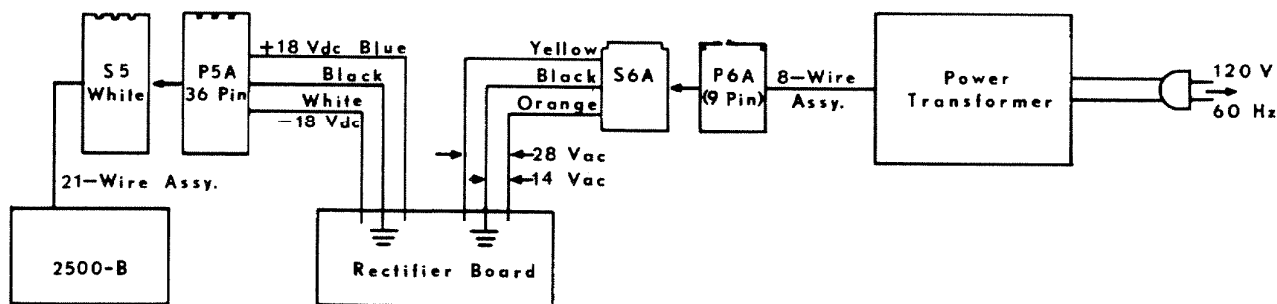

Fig. 1.40 — POWER SUPPLY SERVICE KIT CONNECTED TO INTERCOM MASTER CONTROL
8. When used to check the Model 2510 Intercom Master Control, it should be connected as shown in Fig. 1.40. (See 2510 Service Manual, NuTone Part No. 45880-3)